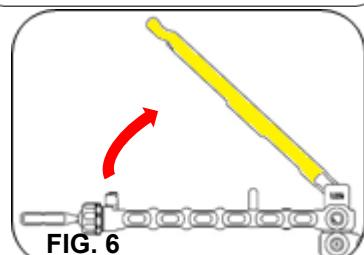

FIG. 6
4. Raise the *CLICK RELEASE™* lever completely to ensure the *CLICK RELEASE™ miniARM®* is fully open and in the reprocessing position (FIG. 6).
<h2>PACKAGING</h2>	<p>1. Ensure the multiSTATION® CLICK RELEASE™ miniARM® is in the fully open reprocessing position (refer to FIG. 6).</p> <p>2. If using a sterilization pouch, place each instrument in its own individual pouch. If using a sterilization tray, read the sterilization tray instructions for use before proceeding. Ensure that the sterilization tray has been cleaned according to the sterilization tray instructions for use and load the tray bottom according to FIG. 15.</p> <p>3. Package the device according to TABLE 1. The barrier system for sterilized re-usable instruments should meet the following requirements:</p> <ul style="list-style-type: none"> • ISO 11607-1 • Suitable for pre-vacuum steam sterilization • Appropriate for medical use • Grade appropriate for weight of loaded tray per sterilization tray instructions for use and facility procedures <div data-bbox="915 1564 1503 1964" style="border: 1px solid black; border-radius: 15px; padding: 10px; text-align: center;">  </div> <div data-bbox="943 1875 1046 1907" style="display: inline-block; font-weight: bold; font-size: 10pt; margin-left: 10px;">FIG. 15</div>